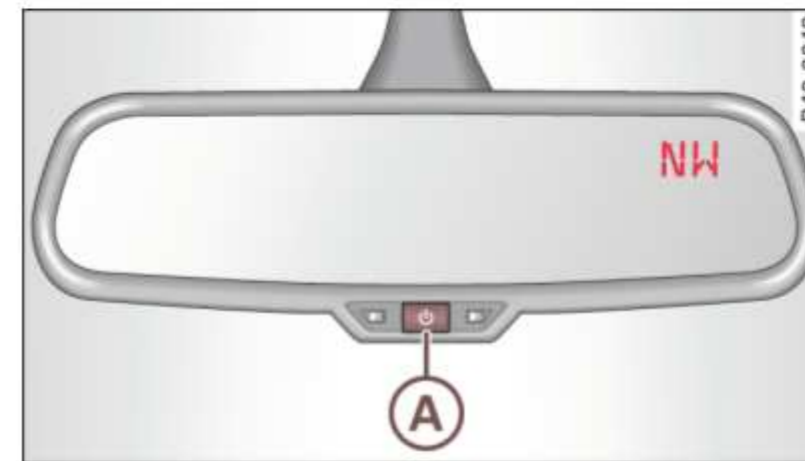

Fig. 53 Inside rearview mirror: digital compass activated
- Hold the **(A)** button ⇒ *page 61, fig. 53* down until the number of the set magnetic deflection zone appears on the interior rear view mirror.